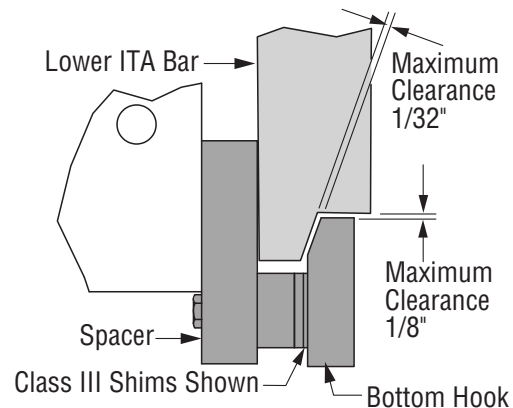

Figure 12 Adjusting bolt-on bottom hooks with spacers
2. Purge the system by installing a jumper line and operating each hydraulic function (clamp, rotate and side shift, if equipped) in each direction for a minimum of 30 seconds. (Figure 12)